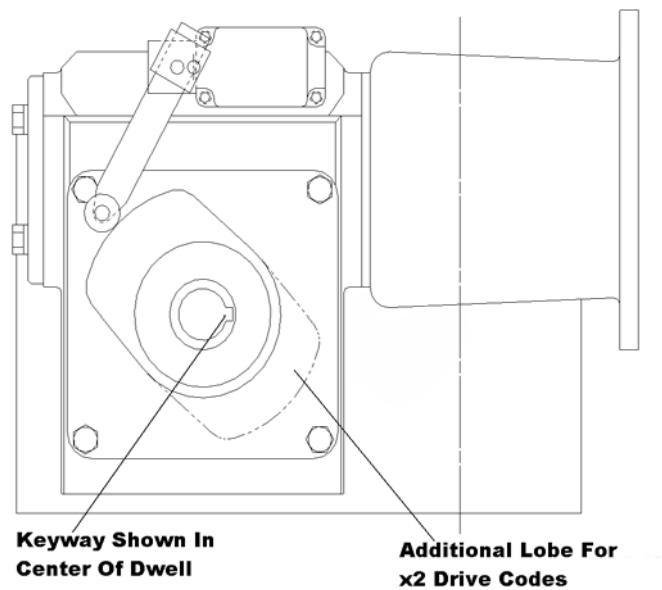

FIGURE 4
4.1.1. Rotate camshaft so cam is in center of dwell (see figure 4).
- 4.1.10. Check the adjustment of the Switch cam if your unit has this option. To insure unit stops in dwell, see Figure 4.
- 4.1.10.1. A standard FD indexer is shown in figure 4 with a Brake Cam & Limit Switch shown with the keyway in the center of the dwell period. It is necessary to phase the Brake Cam such that the input shaft of the indexer stops during the dwell period of the index cycle while leaving enough of the dwell period for the input shaft to accelerate to full speed before leaving the dwell period.